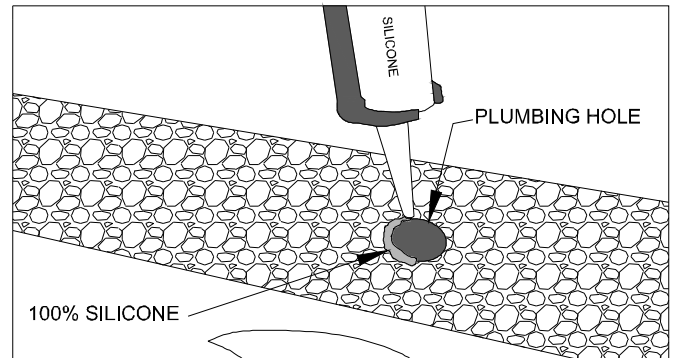

Figure 25A
- Once the faucet and any additional plumbing holes have been drilled, completely seal the exposed substrate with 100% silicone. (FIG. 25A)